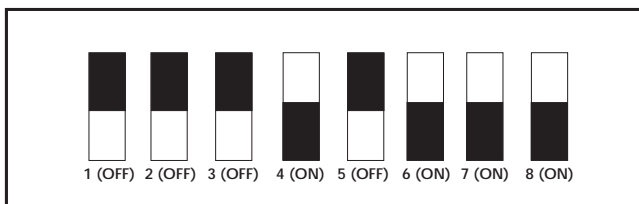

Figure 7 - Dip-switch setting
**Note:** If factory installed the dip-switchs will already be set. If the humidifier is field fitted, set the dip-switches as shown in figure 7.